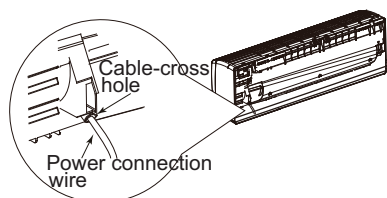

Fig.12
- (2) Make the power connection wire go through the cable-cross hole at the back of indoor unit and then pull it out from the front side.(As show in Fig.12)